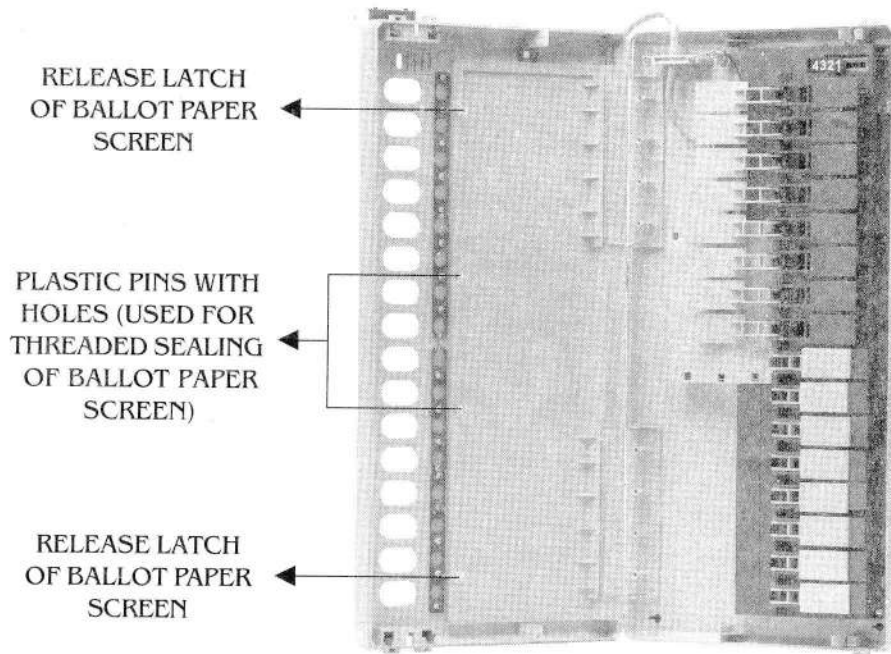
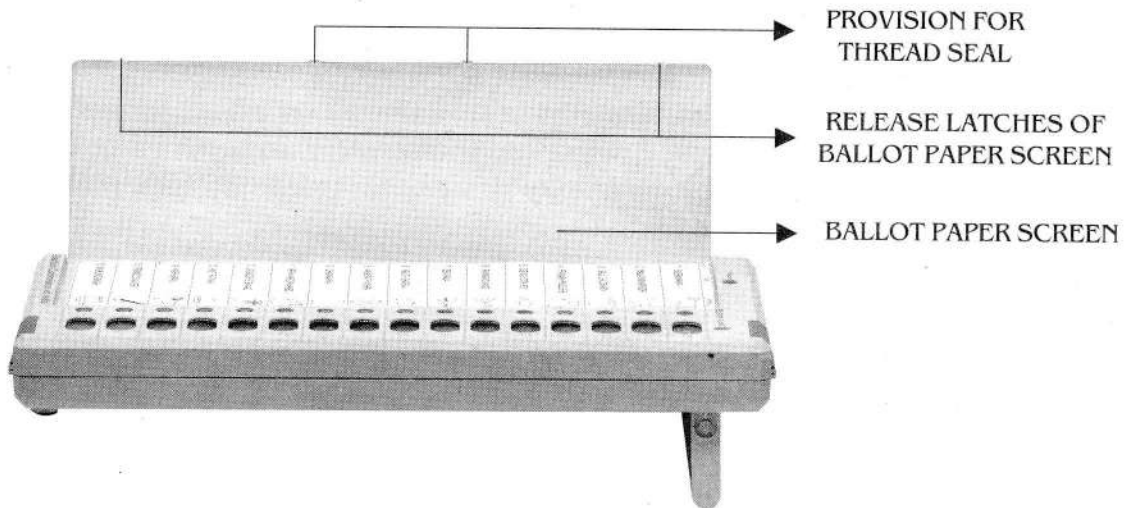

FIG. 15 Inside view of Top Cover
FIG. 16 View of Upper Side of Top Cover
4. Open the ballot paper screen, which is a transparent acrylic sheet, hinged to the top cover on the extreme left side. The release latches of the screen are inside of the top cover (Fig. 15). By pressing the latches simultaneously, first slightly towards right and then pushing them downwards, the ballot paper screen will become free for opening on the upper side of the top cover (Fig. 16). While opening the screen, care should be taken to ensure that it is not damaged.
6. After the ballot paper has been firmly fixed and the ballot paper screen has been pressed fit on the upper side of the top cover, the screen is to be sealed on the inner side of the top cover. This is to be done by passing the thread through the two holes on the screen specially provided for the purpose (Fig. 15) and by putting the thread seal on the prescribed address tag showing the particulars of the election with the seal of the Returning Officer.